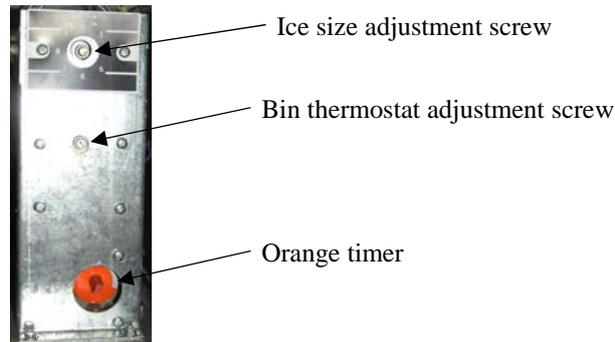

Fig 1
5. The machine will start in the harvest cycle on initial installation and fill the water trough. If the machine does not start in harvest cycle lift the bottom front panel and remove it. Turn the orange timer (see fig.1) clockwise with a screw driver until it goes into harvest and refit the front panel.
This gives access to the ice adjustment screw (see fig. 1)
The machine will automatically stop when the temperature in the storage bin reaches the preset level, therefore the height (amount) of ice in the bin will vary from winter to summer. To maintain the optimum level the bin thermostat (see fig.1) needs to be adjusted.
This gives access to the bin thermostat adjustment screw (see fig. 1)